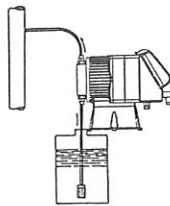
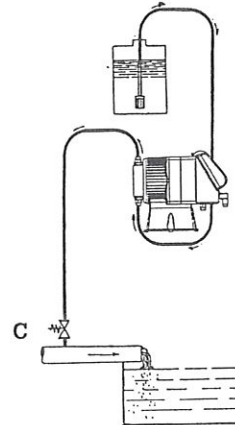

Fig. 5
Fig. 6
- c.- Locate the pump as shown in fig. 5 bearing in mind that it may be installed either below or above the level of the liquid to be dosed, though the level difference should not exceed 2 meters. When the process plant in which the pump is installed is operating at atmospheric pressure (no back pressure) and the chemical tank is situated above the plant (Fig. 6), the condition of the injection valve should be checked at regular intervals, because excessive wear and tear could cause additive to drip into the plant even when the pump is shut down. If the problem persists, install a properly calibrated counter-pressure valve (C) between injection point and the valve. In the case of liquids that generate aggressive vapors, do not install the pump above the storage tank unless the latter is hermetically sealed.